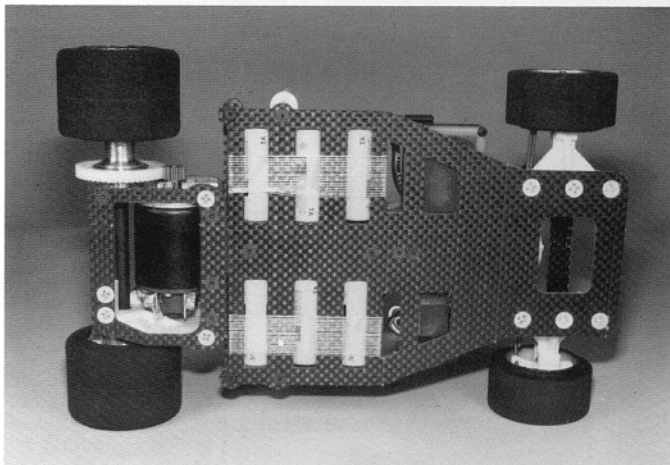

Fig. 80
□ **Fig. 80**—The batteries are held onto the chassis by strapping or filament tape, taped around the batteries and the bottom of the chassis, as shown.